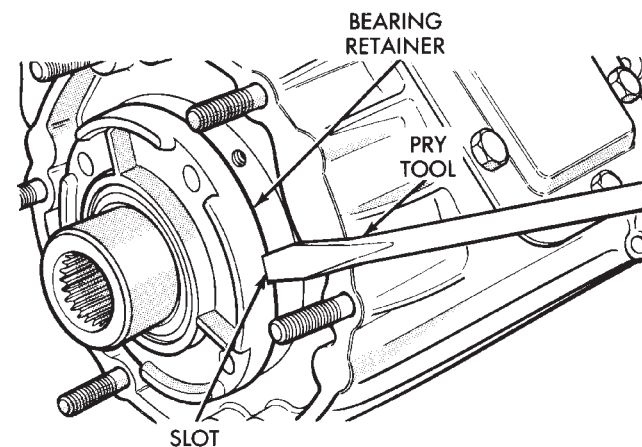

Fig. 38 Loosening/Removing Input Bearing Retainer
(2) Loosen bearing retainer with pry tool. Insert tool in retainer slot as shown (Fig. 38). Then remove retainer.